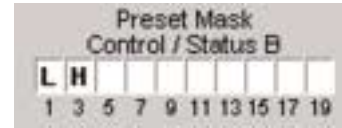

Figure 4.4. Preset Mask Control/Status B
A typical use for Preset Mask Control Status B is a room combining application which uses automatic partitions with sensors or triggers which set the pin to high (H) when the partition is closed and to low (L) when the partition is open. For example, if pin 1 is connected to the first partition and Pin 3 is connected to the second partition, then the Preset Mask Control Status B settings shown in Figure 4.4 will activate the preset when the first partition is open and the second partition is closed.